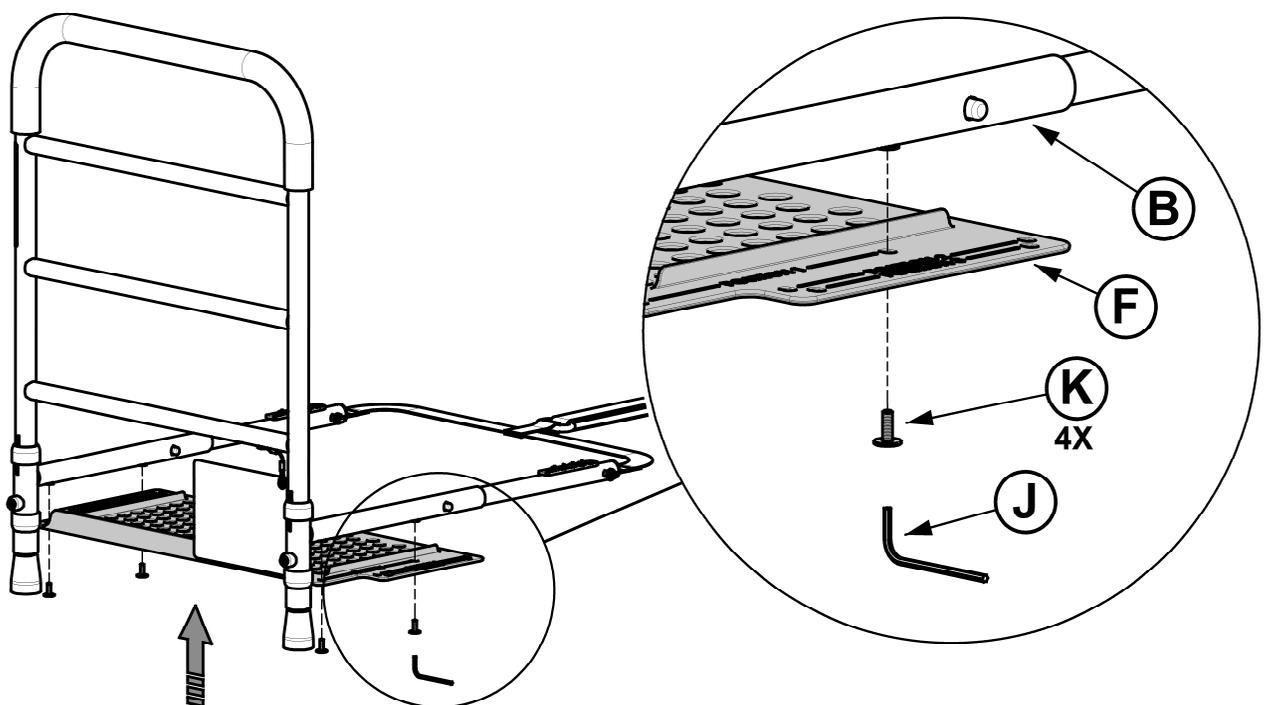

FIGURE 3
3. Secure F to B with bolt (K) 4x using tool (J) as shown in *FIGURE 3*.